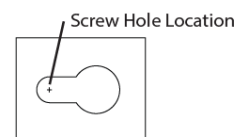

Figure 3
7. **Position the Fixture Housing (1) against** the mounting surface and with a pencil, mark the screw hole locations to be located at the narrow section of the keyholes. **See Fig. 3.**